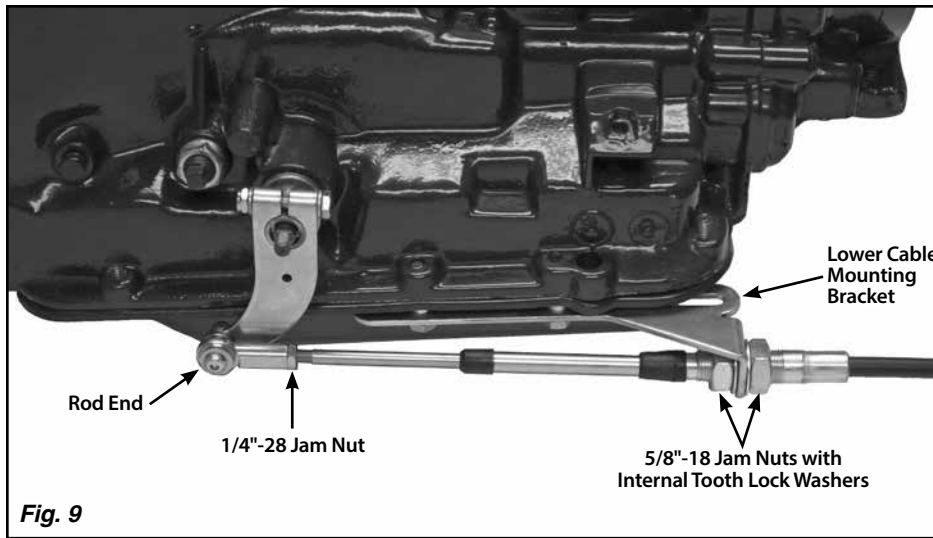

Fig. 9
Step 15: Attach the rod end at the transmission to the trans arm using a 1/4"-28 x 1" button head bolt, flat washer, rod end spacer, and nylock nut. The rod end will be positioned on the outside of the trans arm, away from the transmission. The rod end spacer goes in between the rod end and the trans arm. The button head bolt can be installed from either direction, but make sure the rod end is sandwiched between the flat washer and the rod end spacer. *Fig. 9 & 10*